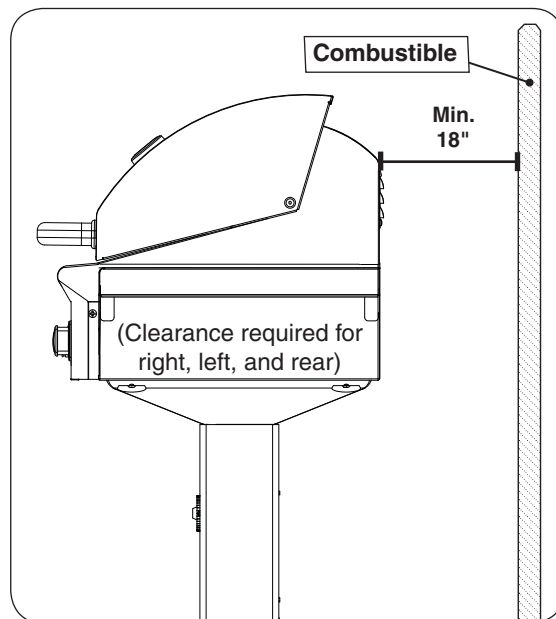

Fig. 10-3 Clearance 'B' Diagram
- The grill must have a minimum of 18" right, left, and rear clearance from any combustible wall (see Fig. 10-3).